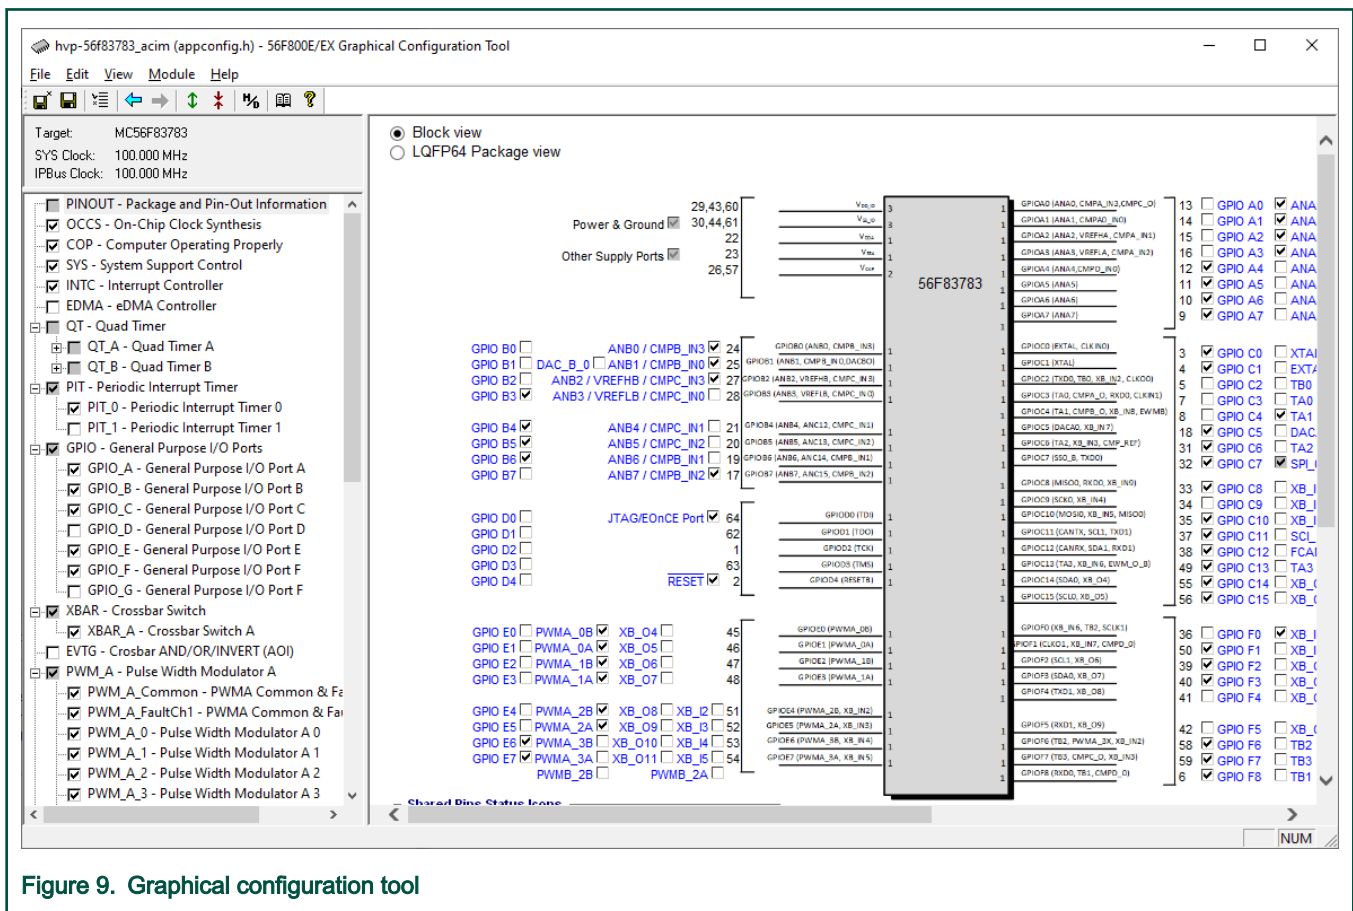

Figure 9. Graphical configuration tool
- Graphical Configuration Tool (GCT); see Figure 9.